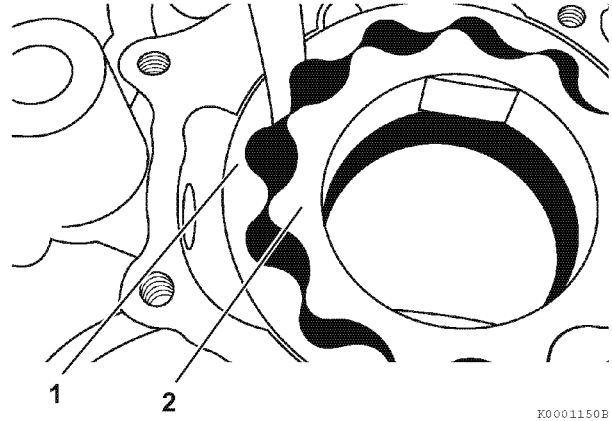

Figure 9-8
Determine the outer rotor to inner rotor tip clearance. Insert a feeler gauge between the top of an inner rotor tooth (Figure 9-8, (1)) and the top of an outer rotor tooth (Figure 9-8, (2)) and measure the clearance.